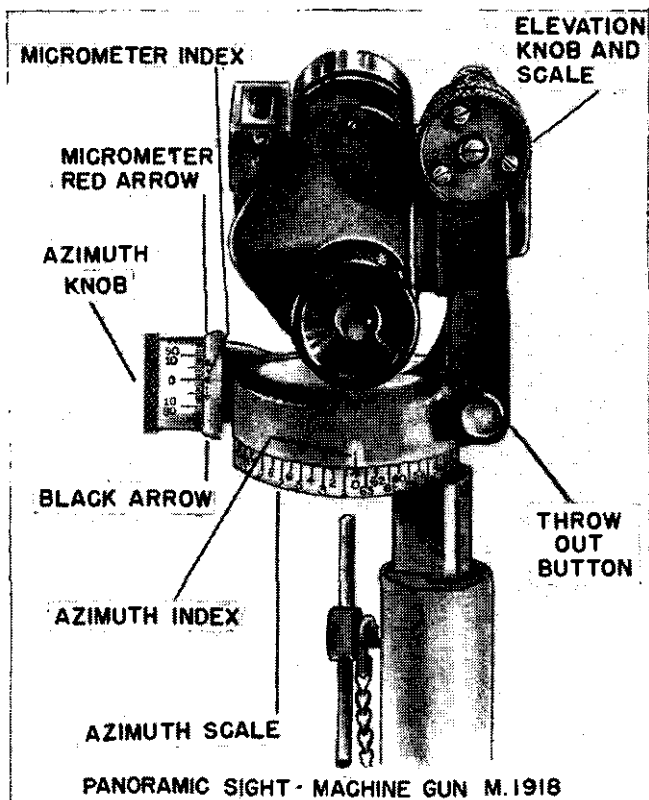

FIGURE 40.—Panoramic machine-gun sight M1918.
d. Panoramic machine-gun sight.—This instrument consists of a low power telescope mounted on a horizontal turntable graduated in mils (fig. 40). Each M4 medium tank platoon will be equipped with two of these sights mounted on tripods to be used like aiming circles for laying the guns.